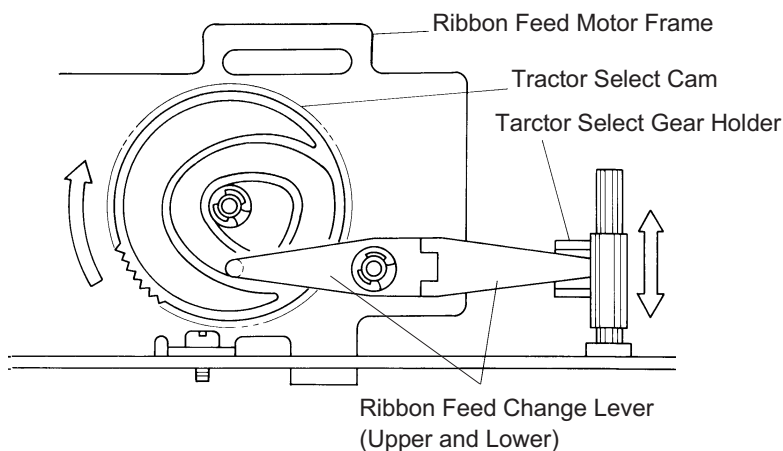

Figure 3-50. Tractor Select Lever Installation
- Attach the tractor select levers to the tractor select cam as shown in Figure 3-50.